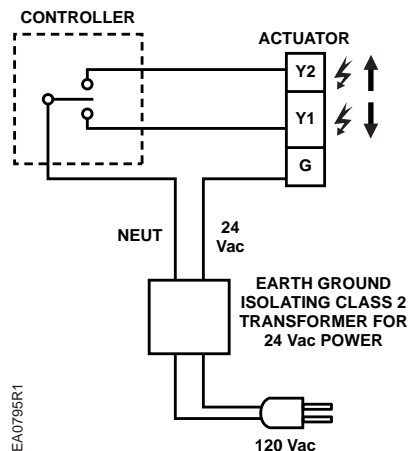
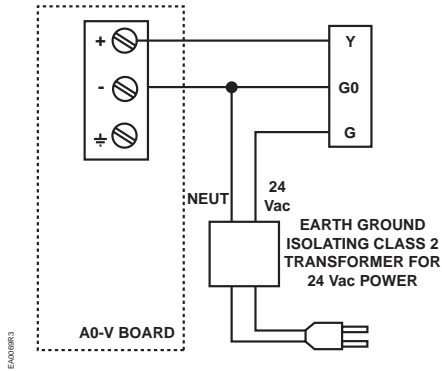

Figure 8. SSD81U Wiring Diagram.
Figure 11. SSD61U/SSD61.5U Wiring Diagram.
3. Attach the wires to the terminal plug. (Reference Wiring, See Figure 8 and Figure 11.)